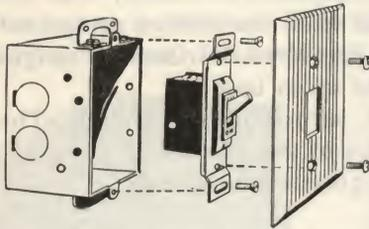

Fig. 15-1. The switch or other device is first mounted in the box, the plate then fastened to the device.
**Installing Wiring Devices:** Figure 15-1 shows how to mount a switch and its plate on a switch box. The switch is mounted in the switch box using machine screws that come with the switch. The plate in turn is installed on the switch proper using screws that come with the plate.